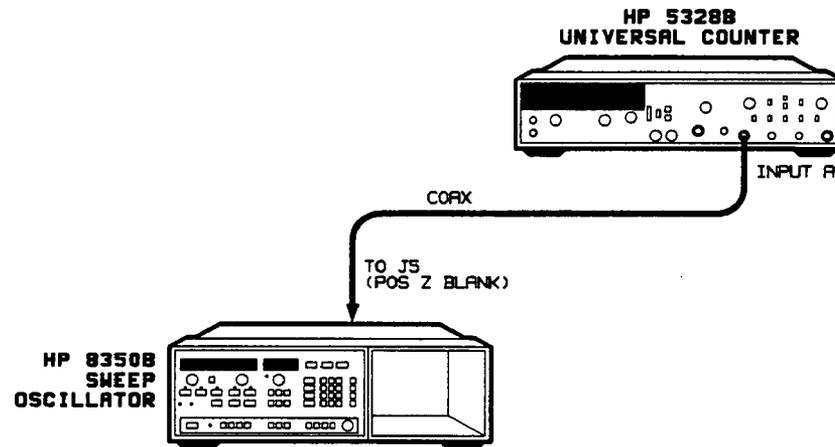

Figure 5-8. Sweep Time Adjustments Setup
4. Position the sweep oscillator upright as shown in Figure 5-8 and remove the top cover.